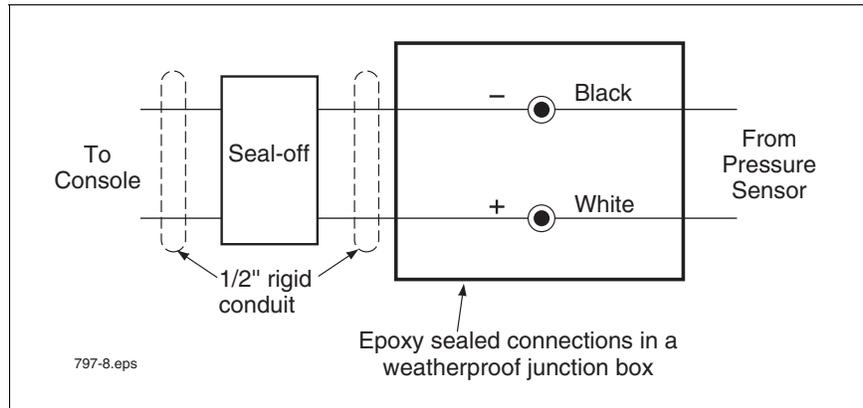

Figure 7. Field wiring Pressure Sensor - Observe Polarity
11. Route the cable from Pressure Sensor to the Pressure Sensor junction box in the dispenser. Observing polarity, connect the sensor wiring to the field wiring from console and cap with wire nuts (see Figure 7).
6. Install one 68CA-4-4 male connector (item 5 in Table 2) into the center port of the 3-way calibration valve, and then directly attach it to the pressure sensor inlet port (see Figure 7).